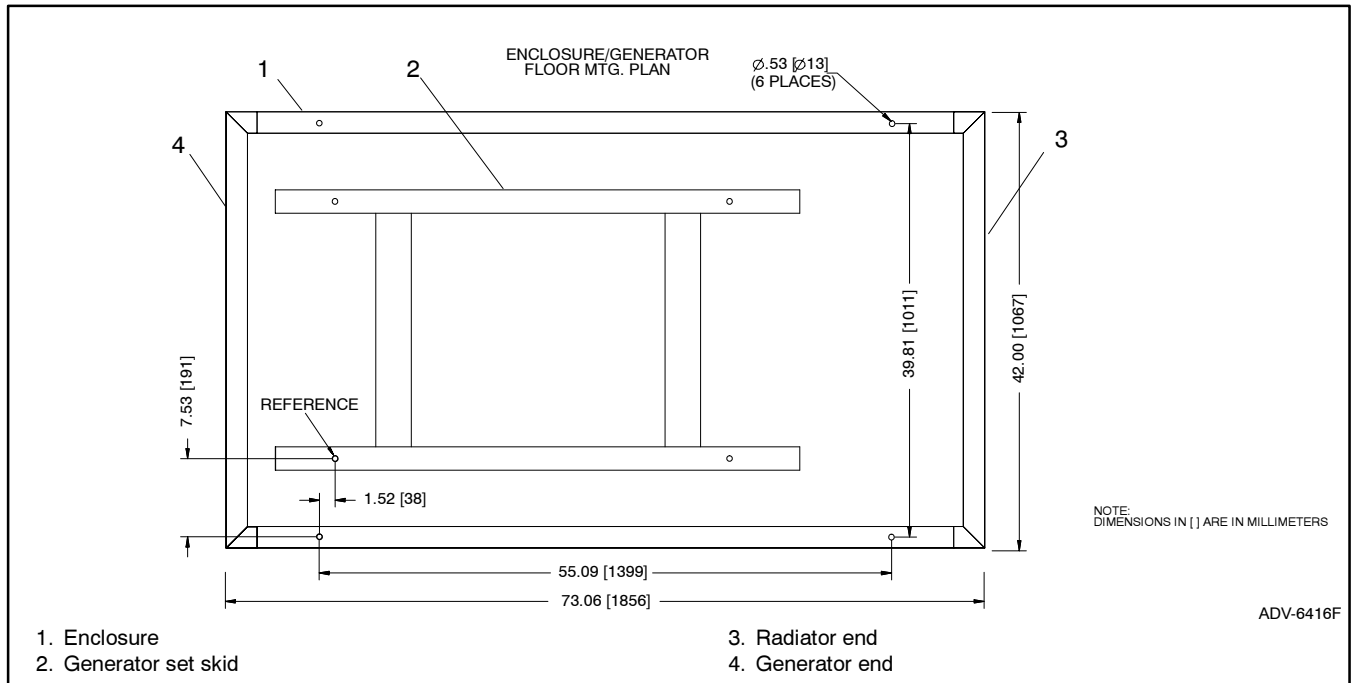

Figure 2 Mounting Pad Hole Locations
2. Install four 1/2 in. concrete anchors in the generator set mounting pad at the locations shown in Figure 2.